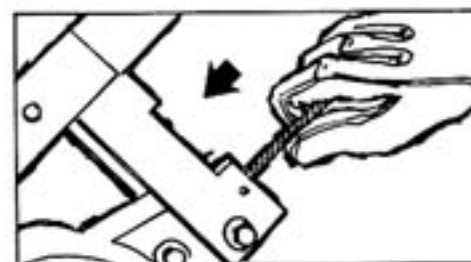

Figure 4
3. Test cable retraction of the device by pulling out at least 4 feet (1.2m) of the cable and allowing it to retract slowly back into the housing, while keeping tension on the cable. (See Fig. 4)